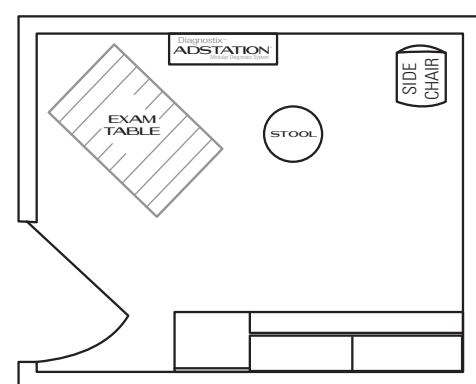

Figure 1
1. Choose a location for the Adstation near the examination table and an electrical outlet. See Figure 1.